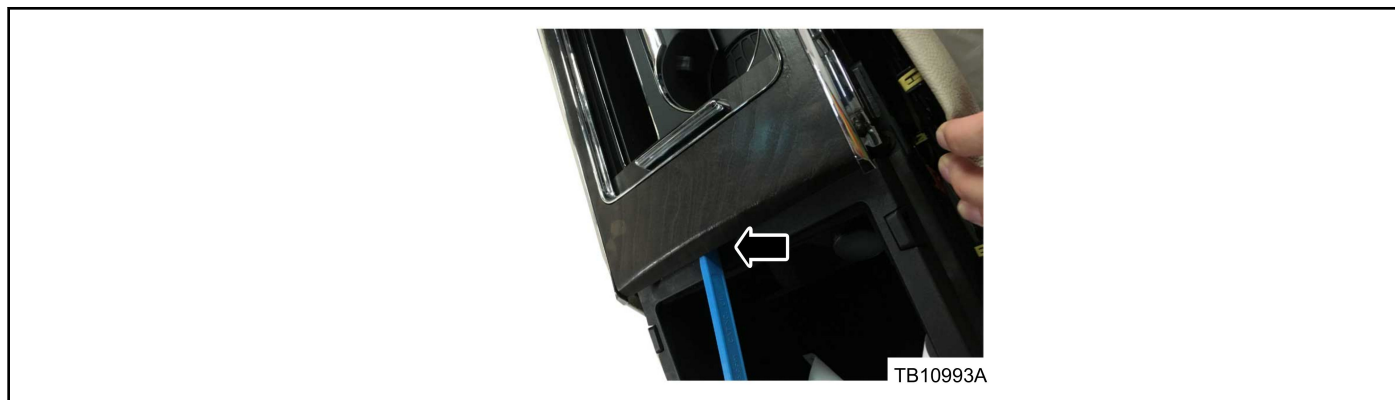

Figure 2 - Article 16-0160
4. Inspect the louver right and left side tracks for the louver out of the track. (Figure 2)